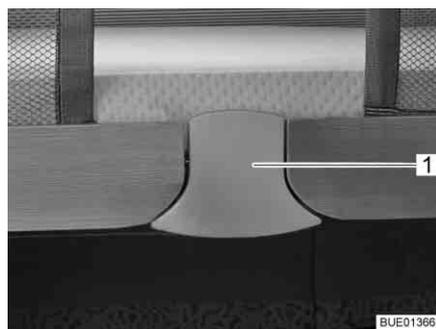
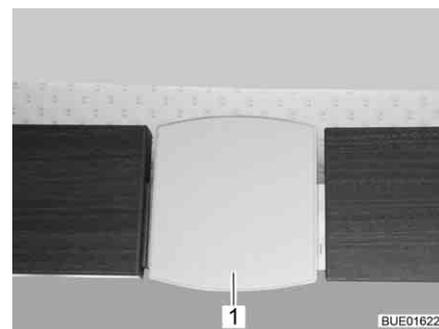

Fig. 139 Release point (Elegance)
Fig. 140 Release point (Viseo)
- Pull out the release plate (Fig. 139,1 or Fig. 140,1) at the bottom. The lock is released.